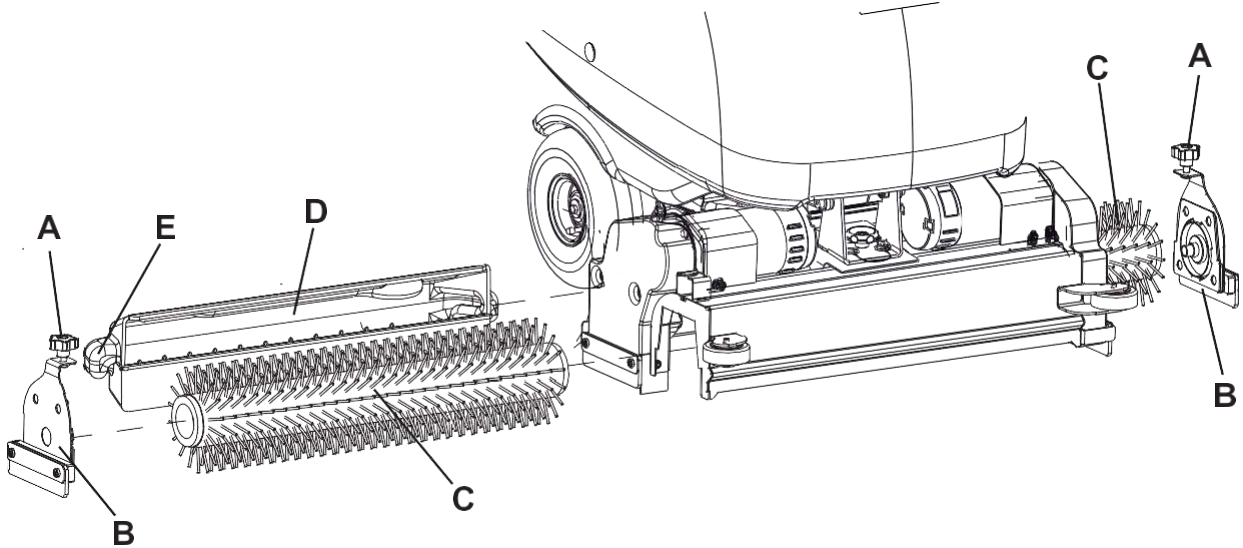

Figure 4
1. Press the switch (66) to start the machine.
2. Lift the cylindrical brush deck by pressing the switch (61).
3. Press and hold the switch (66) for nearly a second to turn off the machine.
4. Remove the handwheels (A, Fig. 4) and the lids (B) by pushing them downwards and pressing on the handwheels.
5. Install the cylindrical brushes (C).